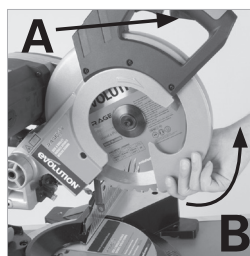

Fig. 39
- Press the lower blade guard locking trigger (**A**) and rotate the lower blade guard (**B**) up and into the upper blade guard. (**Fig. 39**)